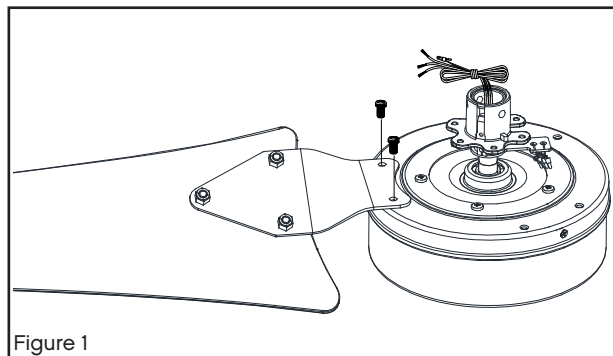

Figure 1
- 1 Locate ceiling joist where fan is to be mounted, being sure location agrees with the requirements in the minimum clearance section of this guide. Wood joists must be sound and of adequate size to support 35 pounds (See page 2, items 3 and 4).
- 3 Remove canopy from hanger bracket. Remove twist-lock trim ring by rotating counter-clockwise. Remove canopy screw that does not have key slot in canopy. Loosen screw with key slot and remove canopy. (Fig. 1)
- 2 Install a blade assembly to the fan housing by aligning the two screw holes in the blade assembly with the holes in the fan motor, secure with provided screws. (Fig. 1)
- 1 Remove hanger ball from downrod by loosening set screw in the side of the hanger ball. Slide hanger ball down and remove cross pin. (Fig. 1)